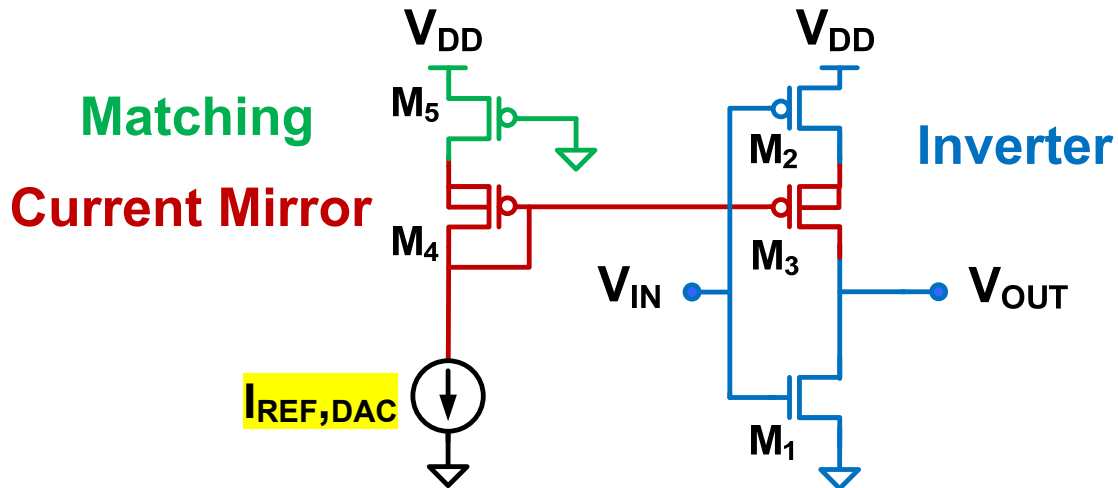
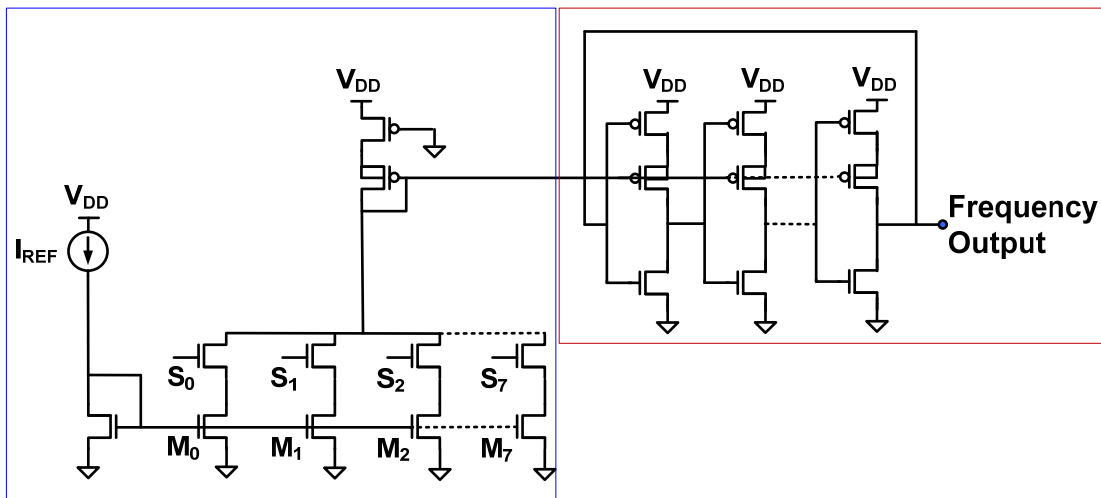

Figure 3: The current starved inverter
Figure 8: DAC and ring oscillator transistor level
We will use the current-starved inverter for our ring oscillator seen in figure 3. The current-starved inverter consists of a CMOS inverter (M1 and M2 in blue) and a current mirror device M3 (in red). When the inverter's input is high M1 is turned on and will pull the output low. When the input is low, M1 is turned off and M2 is turned on. With M2 on, the current pulling the output high will be limited by M3.
The digital to analog converter (DAC) will replace the current sources in the figures 3 and 5 and set the reference current for the current-starved ring oscillator. The circuit we will use to do this is shown in figure 8 outlined in blue, connected to the ring oscillator circuit outlined in red.
The DAC's reference current is mirrored by an NMOS. The other halves of the mirrors are sized such that when the NMOS switch (S_{0-7}) in figure 8 is turned on it will set the current necessary to starve the oscillator the right amount to achieve the required output frequency. Only one switch will be turned on at a time. **To turn on the switches use a 3V gate voltage. To turn the switch off, tie the gate to ground.** As an example of operation: When S_0 , and only S_0 , is turned on there should be the right amount of current supplied by M_0 such that the current starved oscillator has an output frequency of 10 MHz. When S_1 , and only S_1 , is turned on there should be the right amount of current supplied by M_1 such that the current starved oscillator has an output frequency of 20
- A table showing for each required frequency your: achieved frequency; frequency error; t_{high} %; t_{low} %; the average power dissipation of the entire circuit; and the drain current, V_{gs} , and V_{ds} of the NMOS underneath the switch that is mirroring the reference current (ie: referring to figure 8, when S1 is on the transistor of interest is M1).